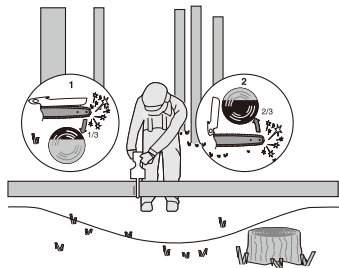

Figure 4
When the log is supported on both ends, as illustrated in Figure 4, cut 1/3 the diameter from the top overbuck) (1). Then make the finished cut by underbucking (2) the lower 2/3 to meet the first cut.